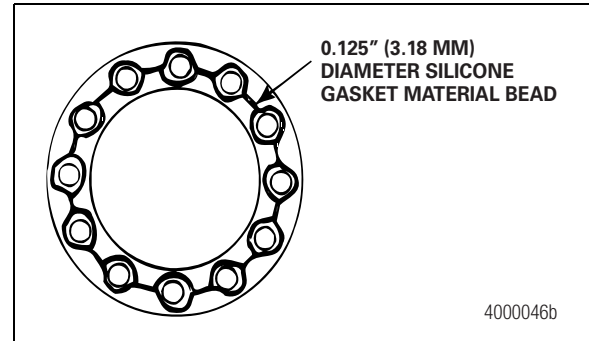

Figure 4.11
3. Apply a 0.125-inch (3.18 mm) diameter continuous bead of silicone gasket material around one surface. Also apply the gasket material around the edge of all the fastener holes on that surface. Figure 4.11.